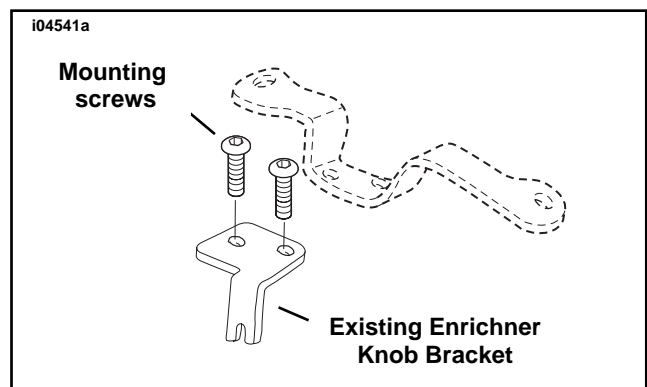

Figure 7. Remove Enricher Knob Bracket
- a. Obtain two Clip Nuts (10) and Horn Cover (1) from the kit. Snap the clips onto the bracket portion of the horn and cover with "nut" side of clip facing the cover.
- b. Obtain the horn (12) and metric flange nut (2) from kit. Orient horn as shown and slide up into cover. Apply a few drops of Loctite 243 (blue) to threads of nut and secure horn to cover bracket. Tighten to 100 **in-lbs** (11 Nm).
- b. Obtain Horn Mounting Bracket (9), Horn Wire Clamp (5) and two Screws (6) from kit. Orient mounting bracket as shown and install screws (with upper screw through horn wire clamp) into clip nuts. Tighten screws securely.
14. See Figure 7. Remove the two flange hex head mounting screws and set aside. Remove and discard the enricher knob bracket from center engine mount.